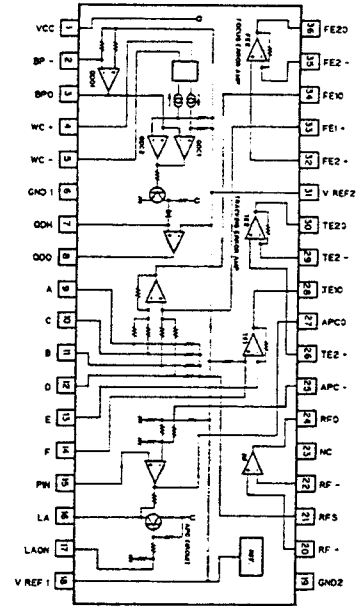

Fig. 43 Block diagram
The present system, which is of single power (+5 V) type, has 2.5 volts available for both RF Amplifier Reference Voltage Vref and other signal circuit reference voltage REFOUT. Voltages referred to below are to be expressed in Unit [REFOUT]. (A voltage based on a reference value of 0 (V) is to be expressed in Unit [V] .) The IC is a 36-pin flat package, which has an internal configuration as shown in Fig. 43.